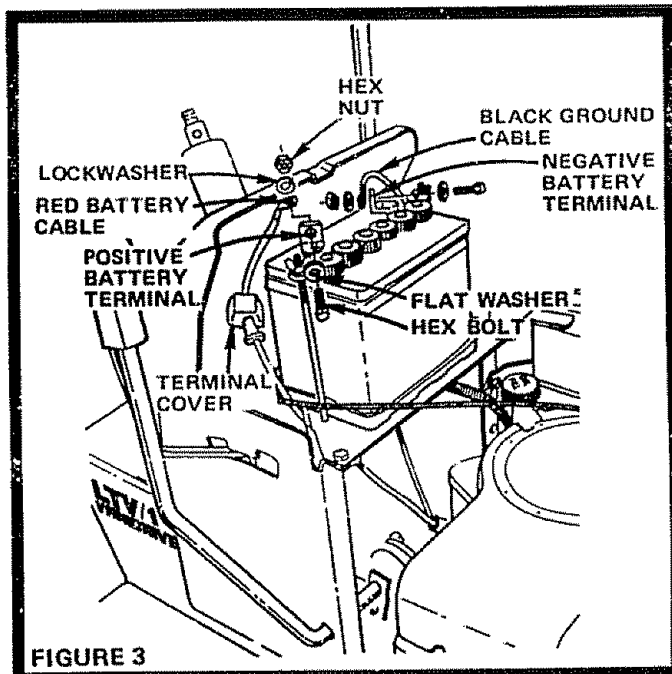

FIGURE 3
- b. Place Battery in Battery Tray (Battery Terminals to inside) (Fig. 3).
- d. Hook remaining Battery Bolt to other side of Battery Support and fasten Battery Hold Down Rod to it with remaining Flat Washer, and Wing Nut. Tighten Wing Nuts securely by hand (Fig. 3).
- b. Connect RED Battery Cable to Positive (+) Battery Terminal with Hex Bolt, Flat Washer, Lockwasher and Hex Nut (Fig 3). Form Cable in an upward position (Fig 4) and tighten securely. Place Terminal Cover over Terminal. **NOTE: PULL TERMINAL COVER FORWARD TO ENCLOSE BATTERY TERMINAL (FIG. 5).**
- c. Connect BLACK Ground Cable to Negative (-) Battery Terminal with remaining Hex Bolt, Flat Washer, Lockwasher, and Hex Nut. Tighten securely (Fig. 3).